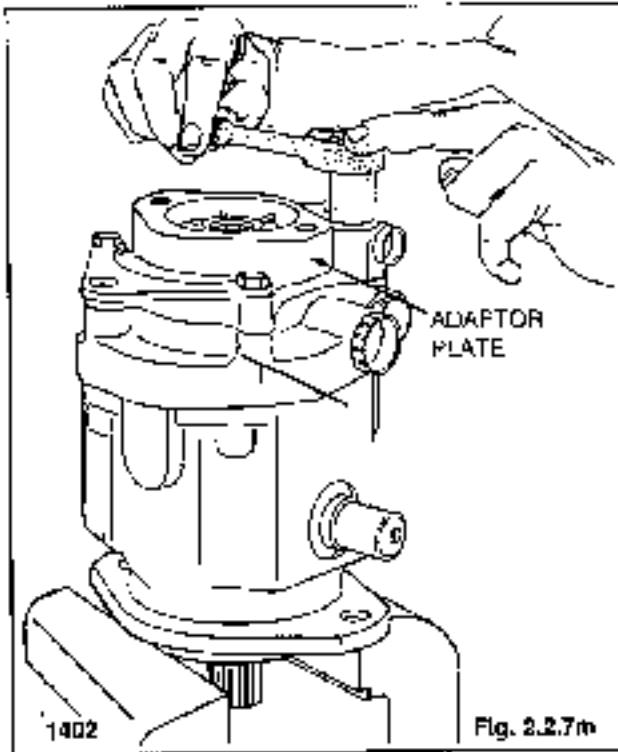

Fig. 2.2.7m
13. Install a new O-ring in the groove on the adaptor plate and install the adaptor plate on the back plate. Torque the cap screws to the following values (fig. 2.2.7m).